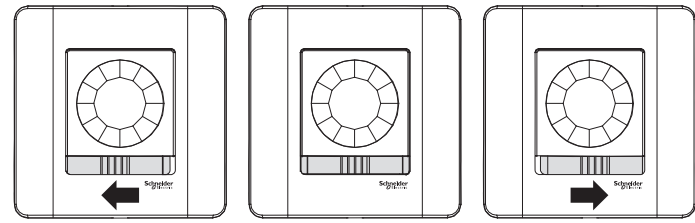

FIG.18
4.4 Manual switch function (See FIG.15-A & FIG.15-B & FIG.18)